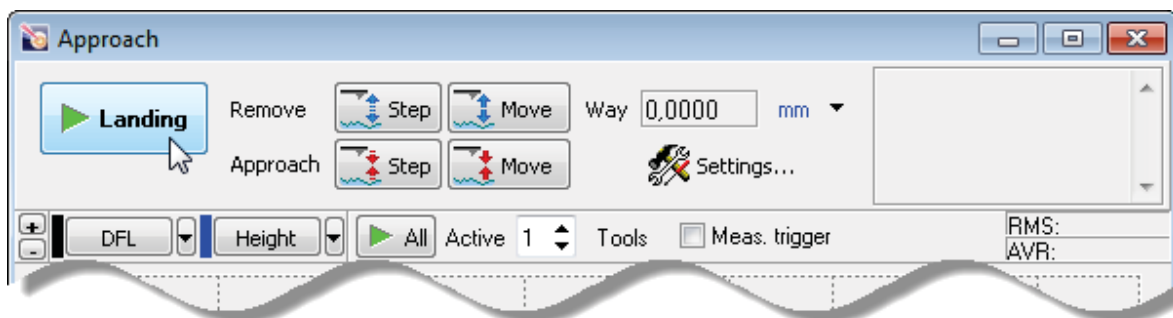

Fig. 7-4. Control panel of the **Approach** window
3. Start the approach procedure with the  button (see Fig. 7-4).